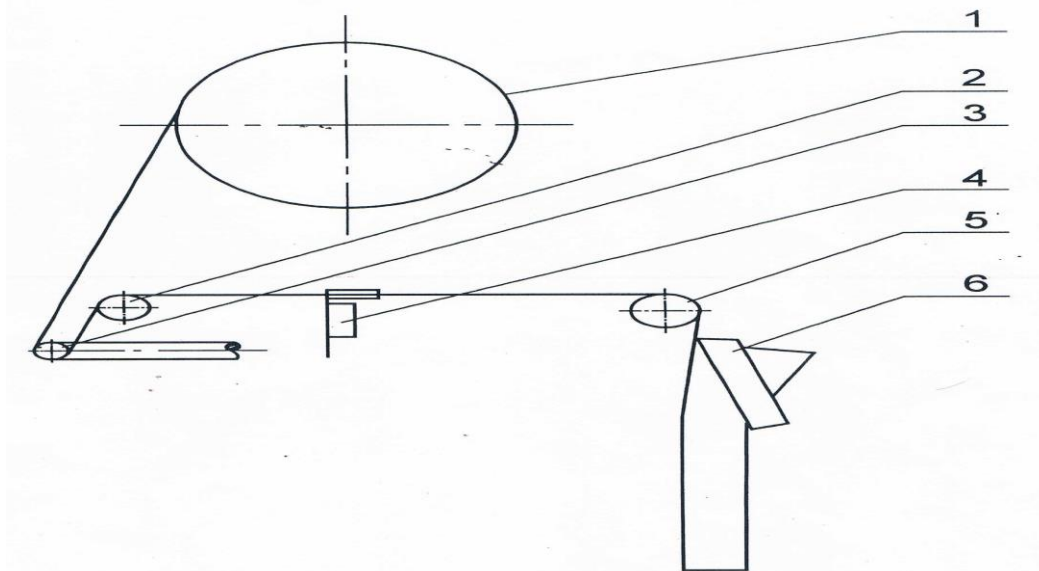

Figure 3、 putting on film schematic diagram
- 4) Put the film to the packaging film former and the pulling film wheel passing through the guide roller (view figure 3).